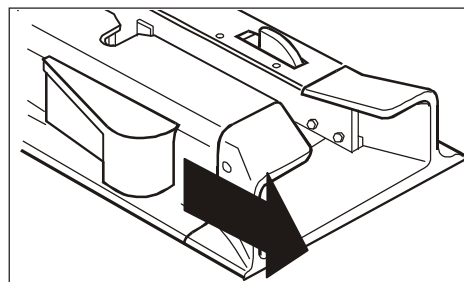

Figure 27 - Pulling the Stat Trac Release Handle
2. *Foot-End Operator*: Release cot from cot fastener by pulling cot fastener release handle (Figure 27), and sliding foot end of cot to the right.